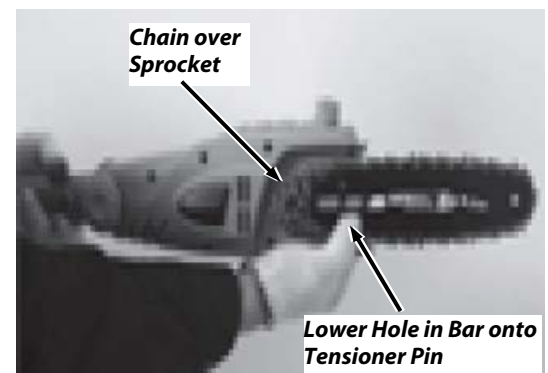

Figure 3
3. Position the Chain so there is a loop at the back of the bar. Hold the chain in position on the Bar and place the loop around the Sprocket (**Figure 3**).